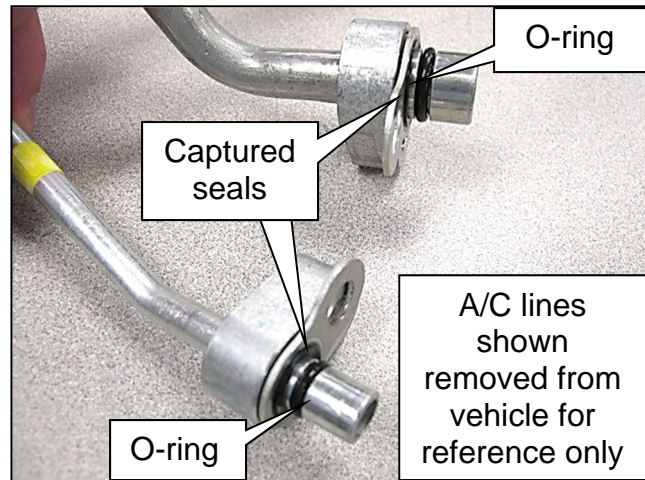

Figure 7
b. Remove and discard the O-ring seal and the captured seal from each high pressure pipe, they will not be reused (Figure 7).